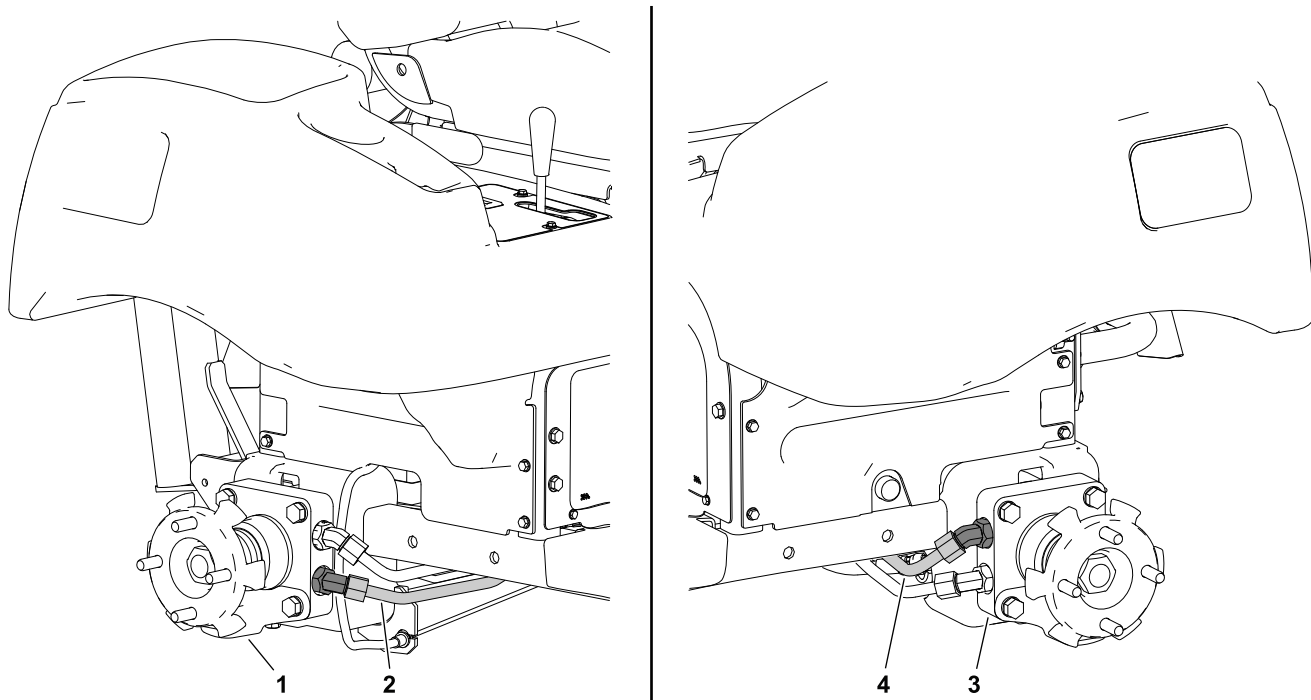

Figure 48
- D. Thoroughly clean the junction of the wheel motor fitting and the hydraulic tube as shown in Figure 48, then disconnect the tube from the fitting.